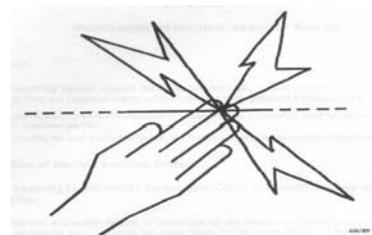

Fig. 1
- >The background colour of both sides of the warning sign is to be yellow. The inscription on the sign is to be black and shall be either the symbol shown (Fig. 1 ) or the words - "WARNING - ELECTRIC FENCE"